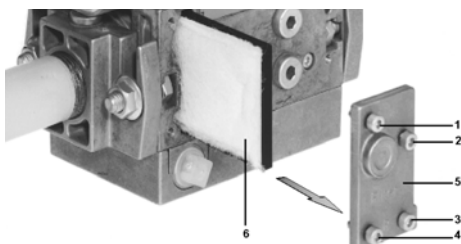

Fig. 33
- 2 Remove screws 1 ÷ 4 using the Allen key n. 3 and remove filter cover 5 in Fig. 33.